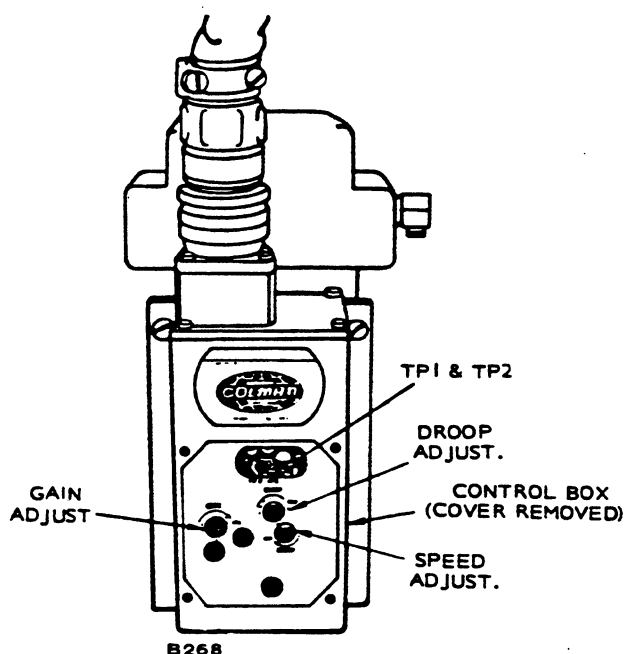

FIGURE 20A. GOVERNOR CONTROL BOX
6. Adjust speed reference potentiometer in governor controller counterclockwise four complete turns (Figure 20A).